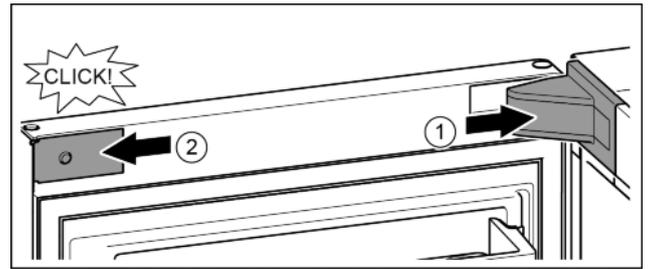

Fig. 16
- ▶ Position the bearing bracket and engage. If necessary push apart carefully. Fig. 16 (1)
- ▶ Position the panel on the side and click into place. Fig. 16 (2)